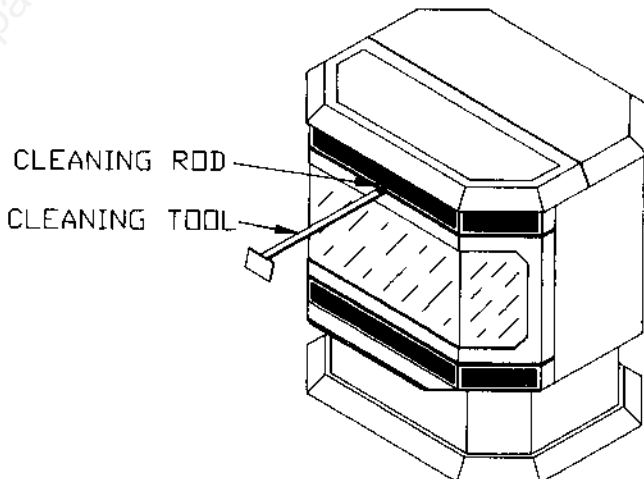

Figure 8
- b. Clean heat exchanger tubes (see 4.2 and Figure 8).